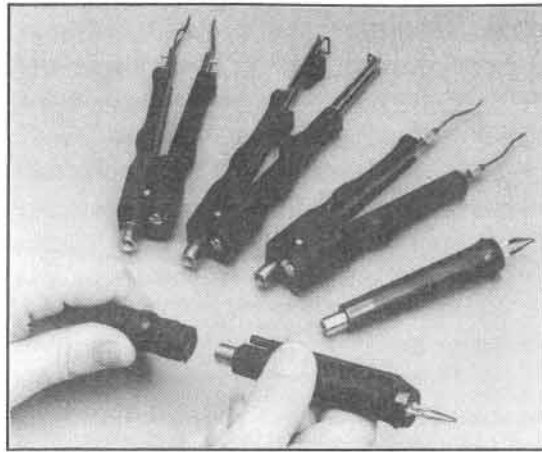

FIGURE 6. ATTACHING FUNCTIONAL TOOLS
- attach Functional Accessories Tool(s) to Universal Power Cord (refer to Figure 6). (**NOTE:** Universal Power Cord permits rapid interchange of various Tools, eliminating the need for a separate integral Power Cord),